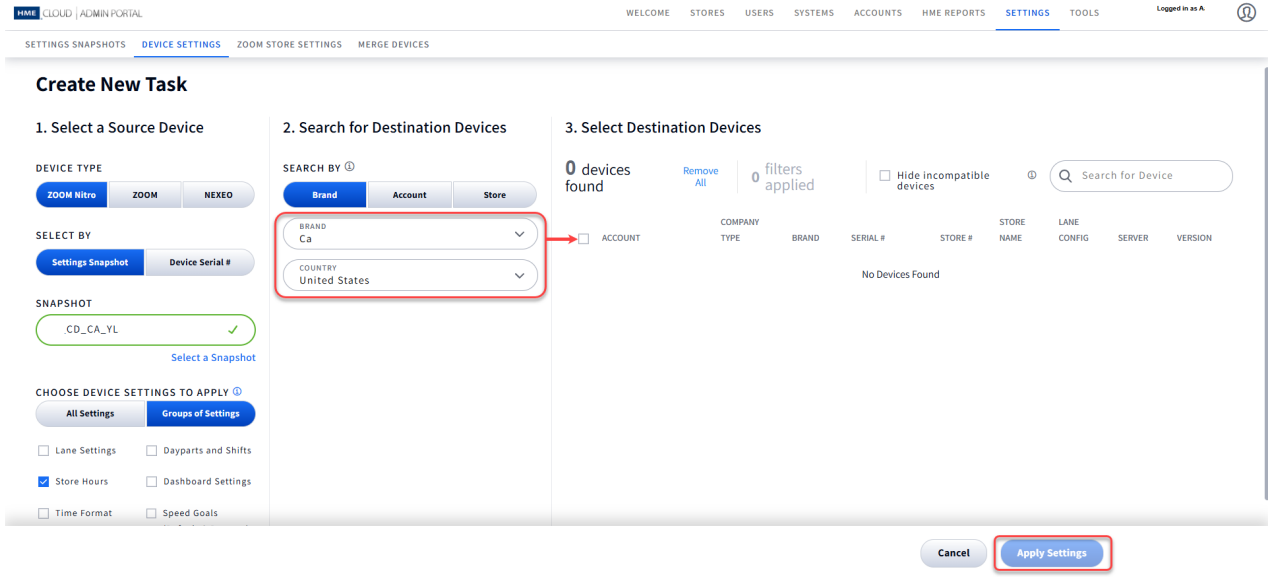

Fig. 13.14
- Once the SEARCH BY fields are populated (Ca (for Brand) and US (for Country) in this example, see Fig. 13.14), column 3 will appear to the right, listing all available destination devices. You must now check the boxes for all the devices you wish to apply your settings to.